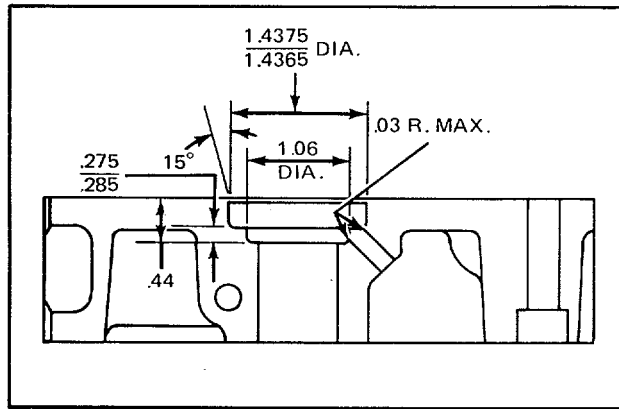

Figure 4. End Plate Oil Drain
10. Remove the finish cutting tool and install an end mill to machine the additional 1.060 to 1.125-inches- diameter counterbore. The total depth of the combined counterbores is 0.440 inch (Fig. 4). The additional counter- bore provides proper oil drain back from the oil seal area.